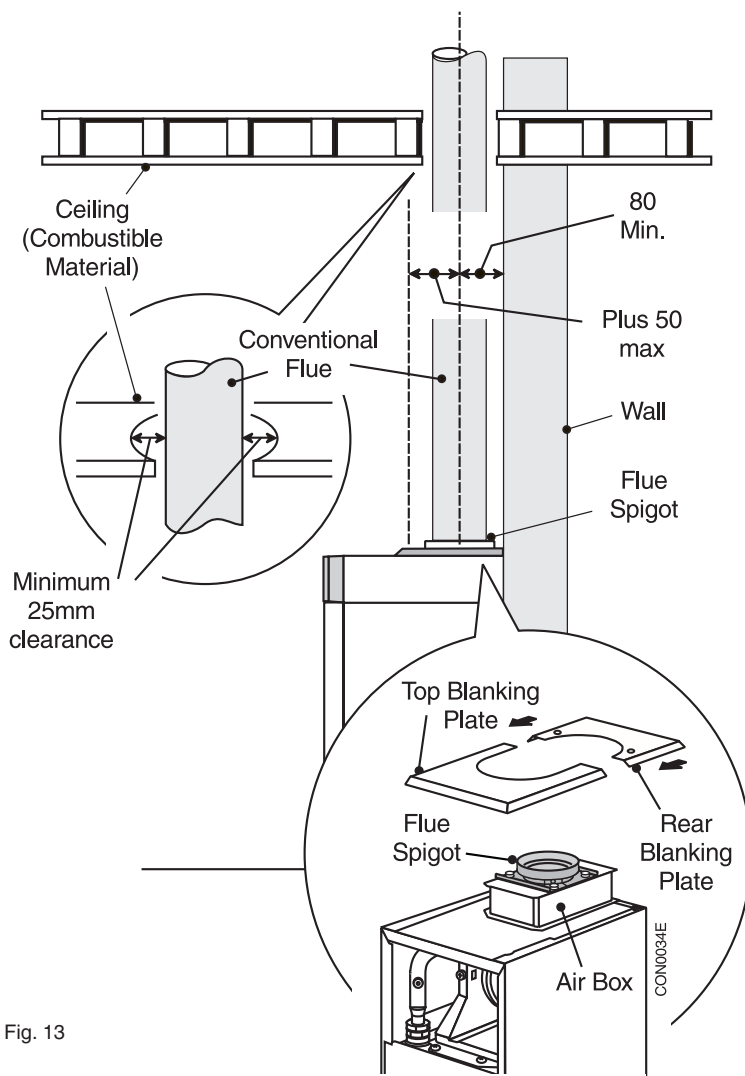

Fig. 13
6. Re-fit the flue spigot as shown in Fig. 13.
3. Determine dimension X +20 mm See Fig.13.